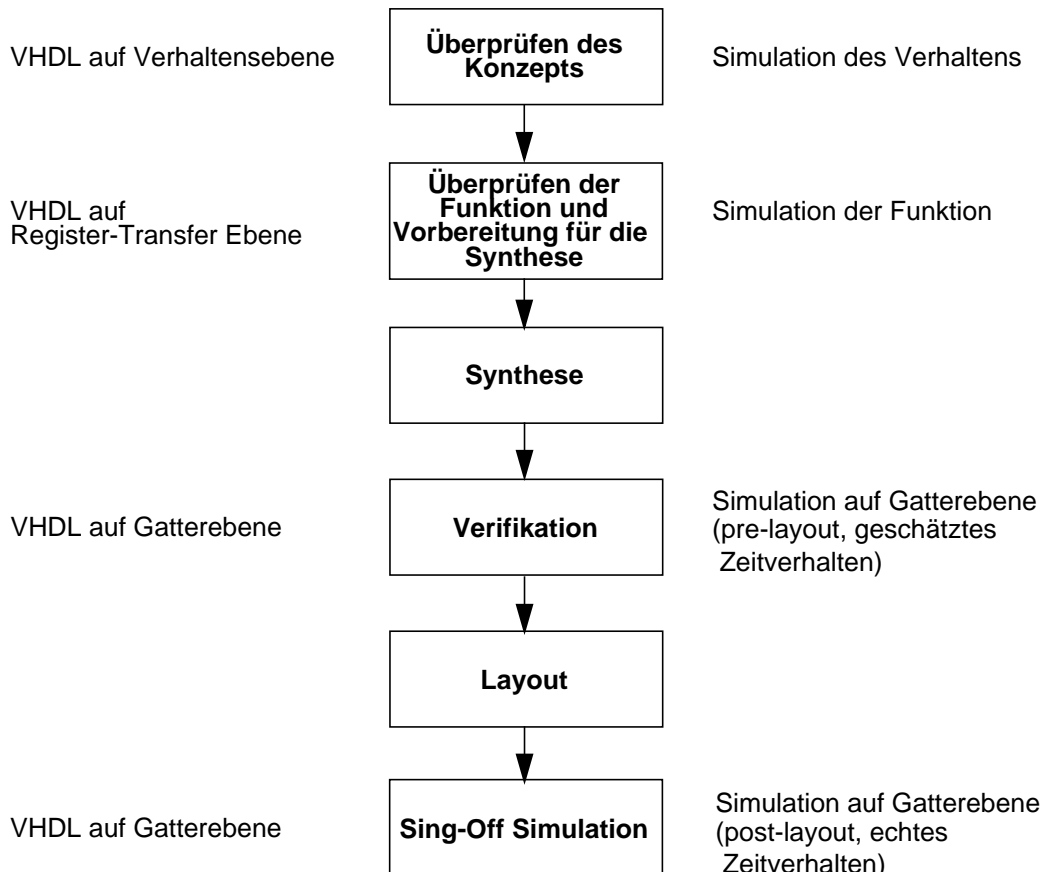

Figure 17: The Placement of the gate level simulation within all design steps.
- A gate level simulation after the RTL Synthesis is also called 'pre-layout simulation'. See also Figure 17: